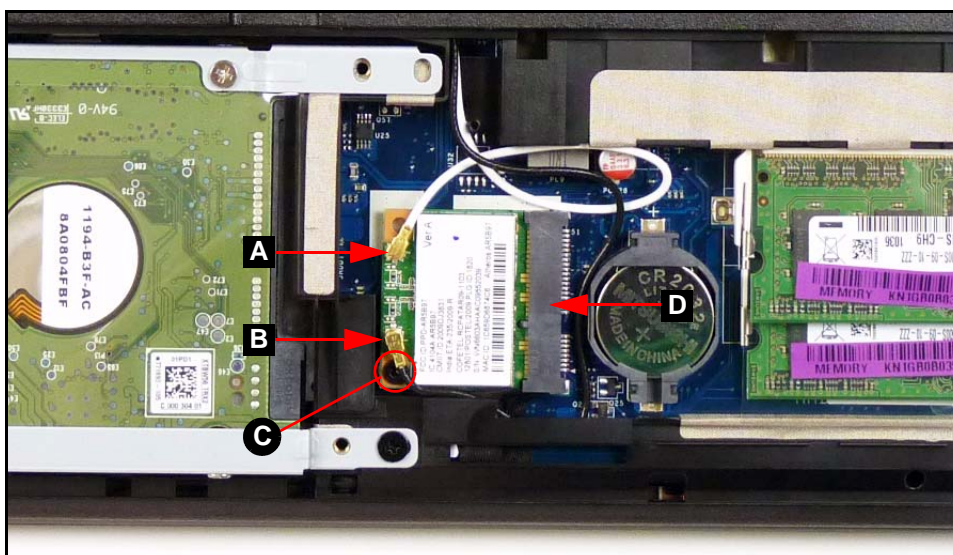

Figure 3-12. WLAN Board
2. Disconnect main (B) and auxiliary (A) antenna cables from WLAN board. (Figure 3-12)
3. Remove one (1) screw (C). (Figure 3-12)
4. Remove WLAN board from mainboard connector (D). (Figure 3-12)
1. Put WLAN board into mainboard connector (D). (Figure 3-12)
2. Install and secure one (1) screw (D). (Figure 3-12)
3. Install main (B) and auxiliary (A) antenna cables on WLAN board. (Figure 3-12)